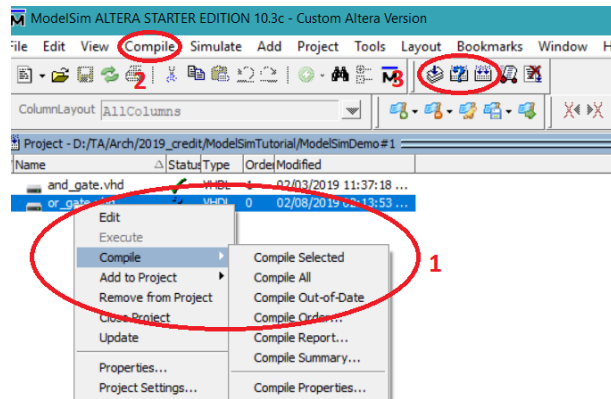

Figure 3: Compile file
2. In Project Tab Fig.3, right click on the file named 'and_gate' and choose compile → compile selected.
3. Alternatively you can choose it from the compile menu Fig.3.
4. Another Alternative is from the toolbar Fig.3.